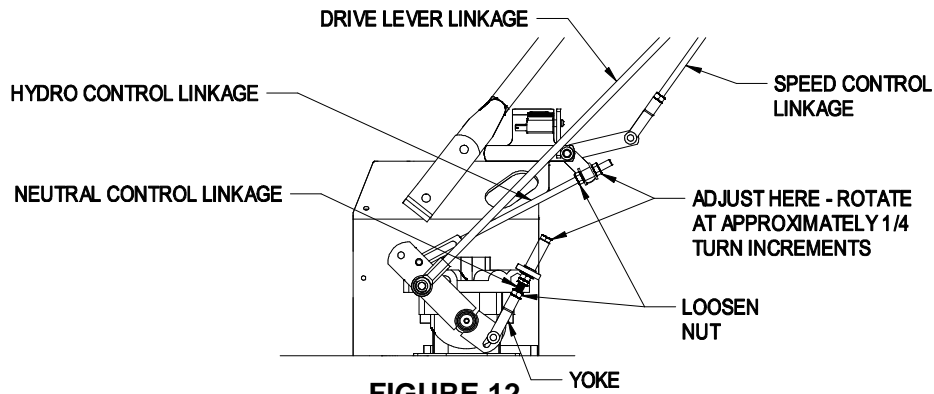
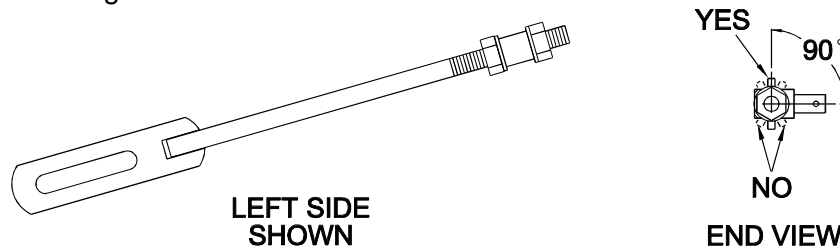

FIGURE 12
FIGURE 13
4. Loosen the nut against the neutral control linkage yoke as shown in Figure 12.
2. Loosen the front nut on **left** hydro control link as shown in Figure 13. Turn the rear control linkage adjusting nut counter-clockwise until wheel rotates forward. Turn the rear nut of left control link clockwise 1/4 of a turn at a time, stopping to move the speed control forward and back to neutral, until left wheel stops rotating forward. Turn the nut an additional 1/2 turn and tighten the front jam nut making sure not to put a bind on the linkage. Make sure flat part of linkage is perpendicular to pin part of swivel. See Figure 12.